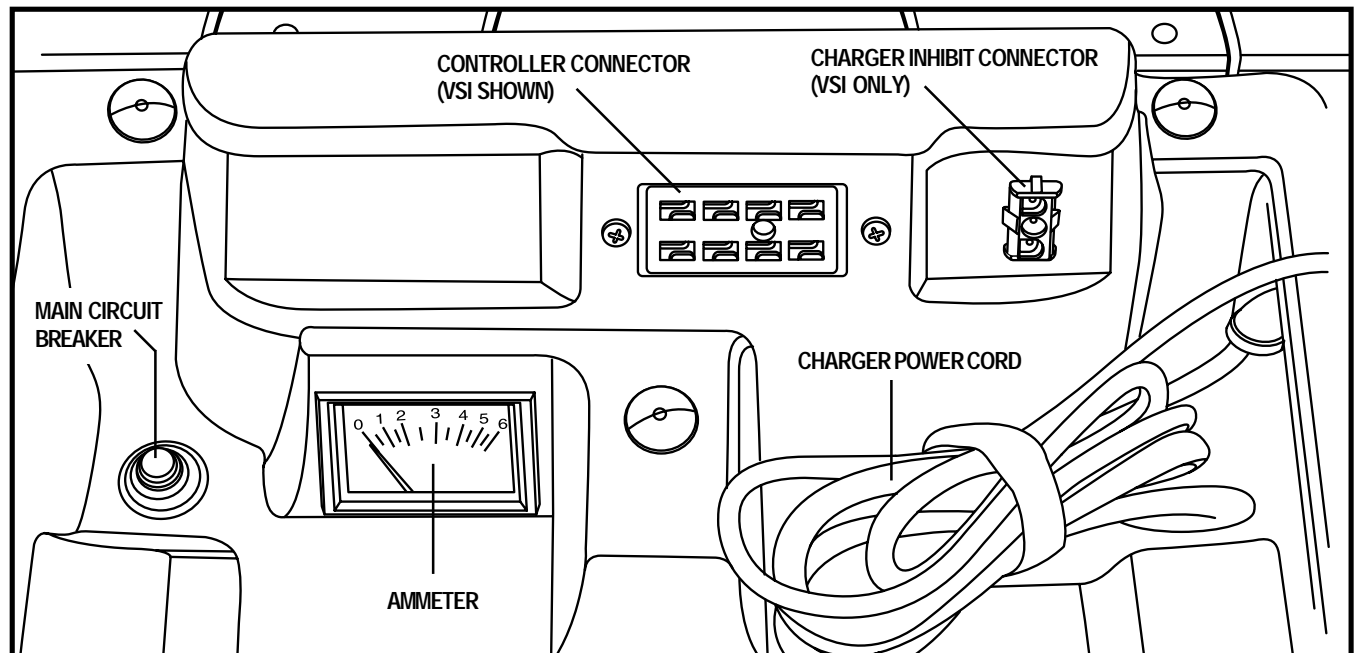

Figure 7. Jazzy 1170XL Plus Electronics Tray
6. Plug the controller cable into the connector on the electronics tray. See figure 7.